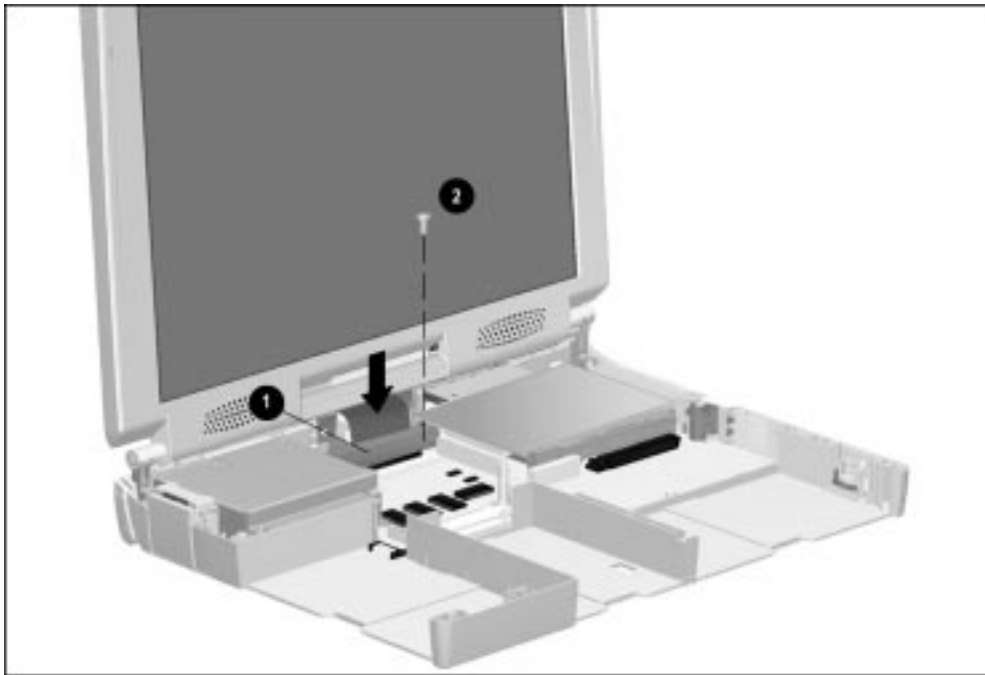

Figure 5-56. *Connecting the Display Video Cable*
9. Connect the display video cable ❶ to the system board and install the screw ❷ that secures the cable to the system board (Figure 5-56).